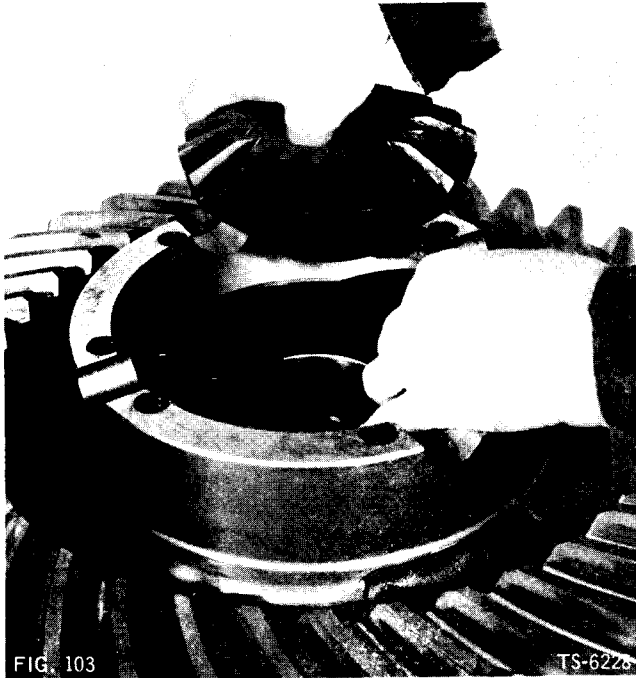

FIG. 103
1. Lubricate and install thrust washer and side gear in differential case and ring gear assembly (Fig. 103). Engage holes in thrust washer on dowels projecting from thrust washer bearing surface in differential case.